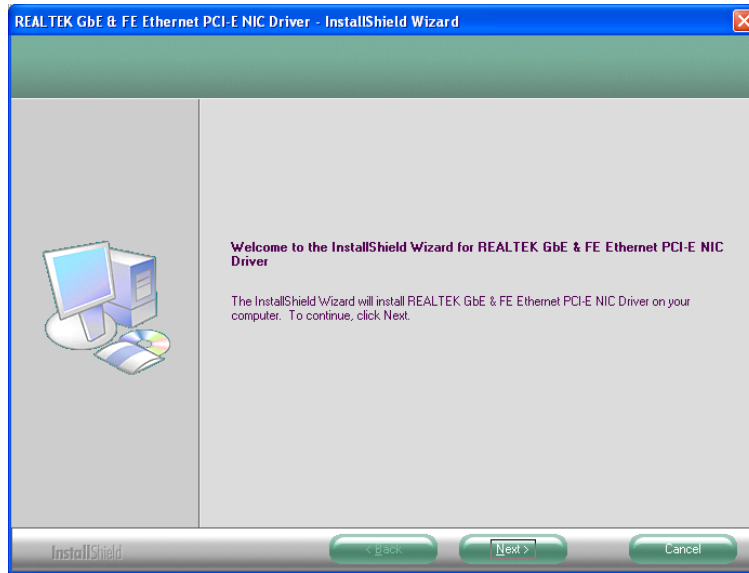

Figure 6-14: LAN Driver Welcome Screen
Step 3: The **Welcome** screen in **Figure 6-14** appears.